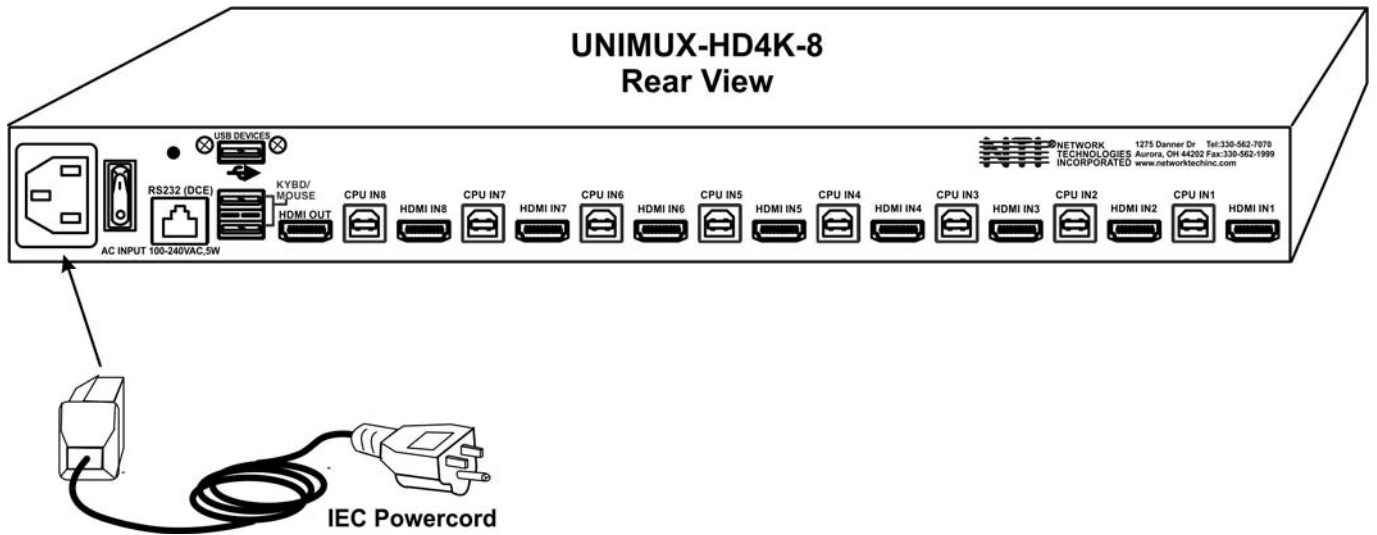

Figure 5- Connect the AC line cord
5. Connect the AC line cord to the UNIMUX. (See Fig. 5 below.)